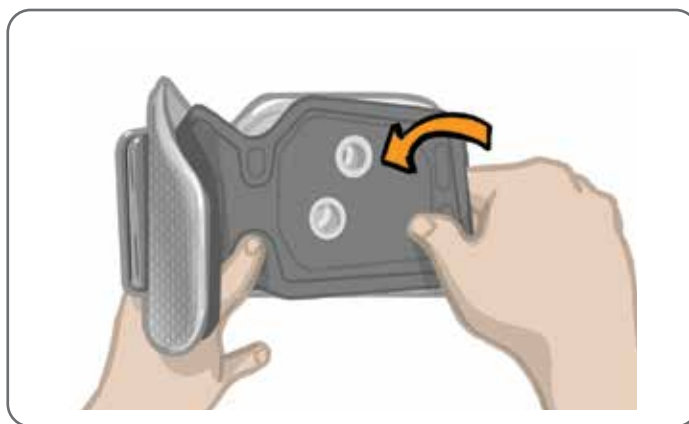

Figure 6-2: Attaching the Personal Panel
- Slide the strap through the strap leads and buckles on the Lower Leg Cuff. Make sure the hook and loop fasteners face away from the Lower Leg Cuff. Press on the hook and loop fasteners to secure the strap. See Figure 6-2.
1. For the Regular Personal Panel, align the buttonholes on the panel over the two electrode plug holes on the Regular Lower Leg Cuff. See Figure 6-2.